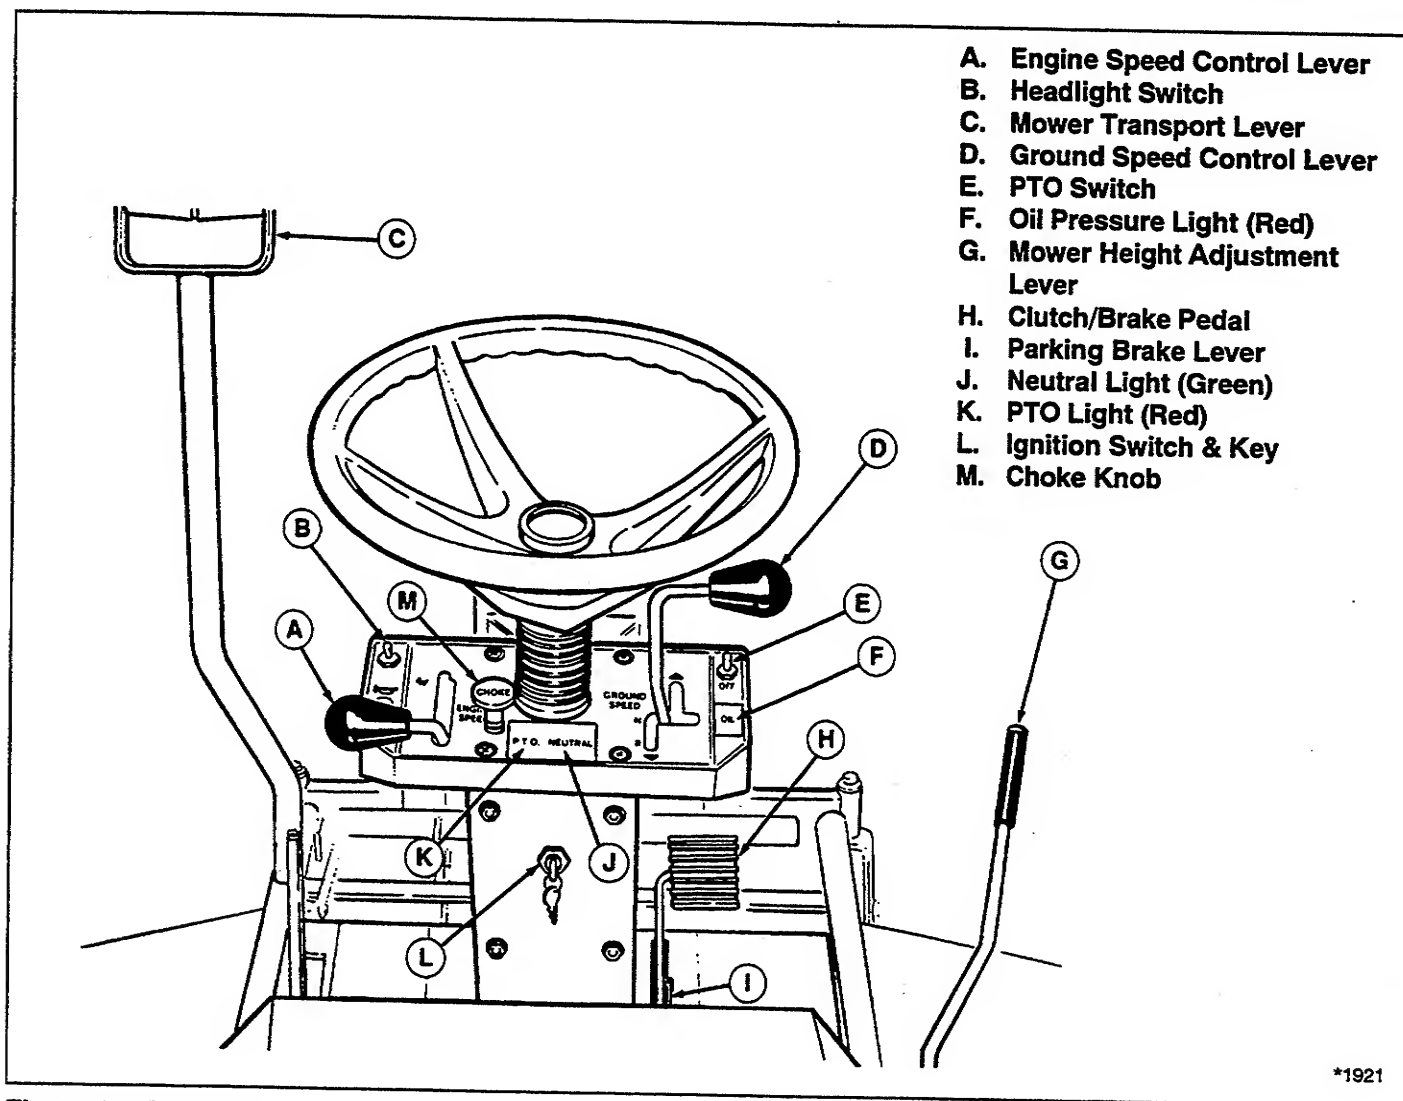

Figure 13. Controls
1. When traveling to or from the work site, fully raise the mower using the mower transport lever (C, figure 13). At the work site, lower mower using the lift lever.
2. Use the mower height adjustment lever (G, figure 13) to set the proper mowing height. See Mowing Patterns & Tips section for cutting height recommendations.
Refer to figure 13.
Ground speed is infinitely variable according to how far the control lever (D, figure 13) is moved in the forward or reverse position.
1. If you are ready to mow, lower the mower from the transport position using lever (C, figure 13) and set the mowing height using the mowing height adjuster (G, figure 13).
2. Set the engine speed control lever (A, figure 13) for full speed.
3. Use the PTO switch (E, figure 13) to engage the PTO.
4. Release the parking brake by depressing clutch/brake pedal (H, figure 13).
5. Move the ground speed control lever (D, figure 13) to the desired direction and speed of travel to set the rider in motion.
6. Adjust engine speed control lever (A, figure 13) to the desired speed. Between 3/4 and full speed is recommended for mowing.
4. Set the engine speed control lever (A, figure 13) to 1/2 throttle setting and allow the engine to idle for 20 seconds. Stopping a hot engine too fast may cause engine damage.
5. Turn key (L, figure 13) to OFF and remove it.
1. Move the ground speed control lever (D, figure 13) into the NEUTRAL position to make a gradual stop. To make a more rapid stop, depress the clutch/brake pedal (H, figure 13).
3. Use the PTO switch (E, figure 13) to disengage the PTO.